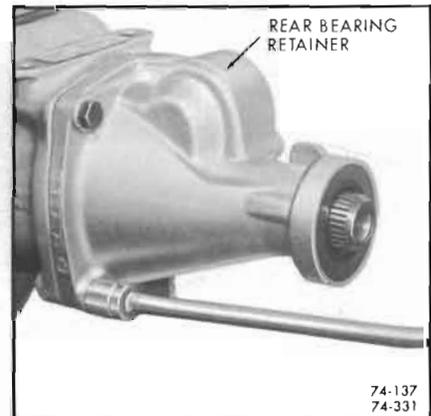

Figure 74-137
1. Remove four (4) rear bearing retaining bolts. Remove rear bearing retainer from case. See Figure 74-137.